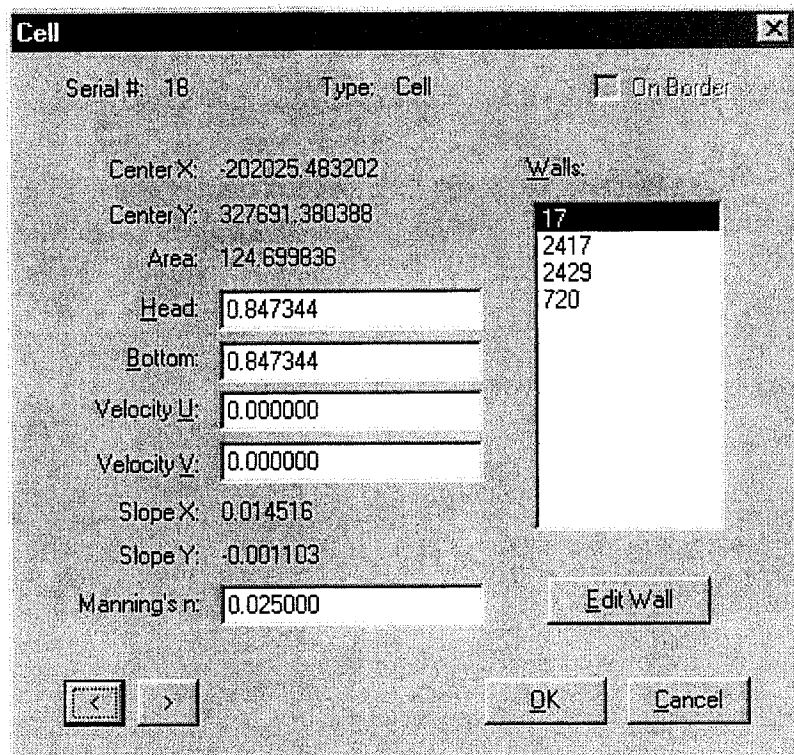

Fig. 5. 1. Cell Property Dialog Box.
1. move the cursor to the cell first, then right-click the mouse and choose the **Edit Grid** command, or click **Edit | Grid** in the menu, or click the Toolbar icon . A **Cell Property** dialog box will be brought up (see Fig. 5. 1).
2. The **Cell Property Dialog** allows you to assign or modify the properties of each individual cell (in Fig. 5. 1, the individual cell is cell no. 23), such as the initial water elevation of the cell, the bottom elevation of the cell, the velocity in x and y directions and the Manning's coefficient, n .